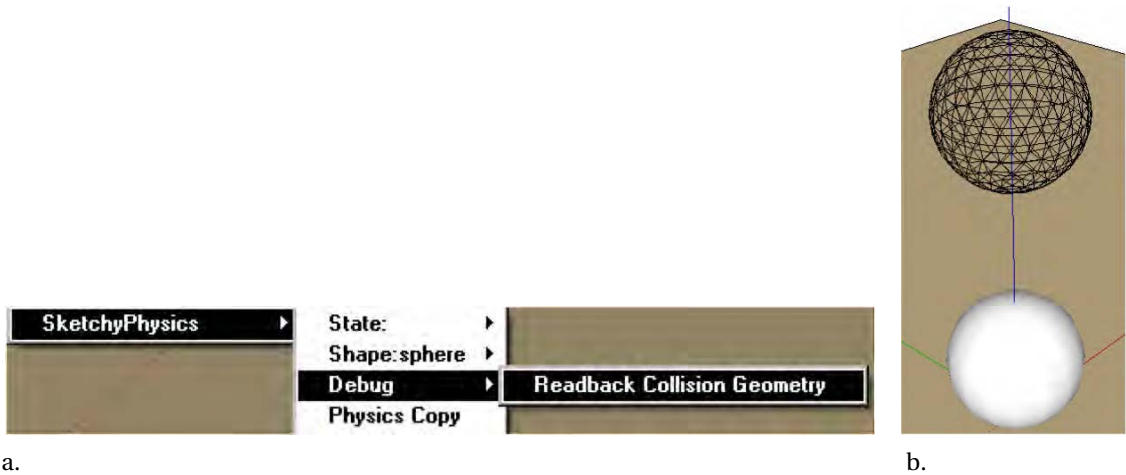

Figure 10–14. Mesh defining the structure of the sphere
7. From the SketchyPhysics toolbar, click the Play/Pause Physics simulation button. You should see the sphere drop down, leaving behind a wire mesh representing the sphere (Figure 10–14b). If this is the case, then you have set up the model correctly.